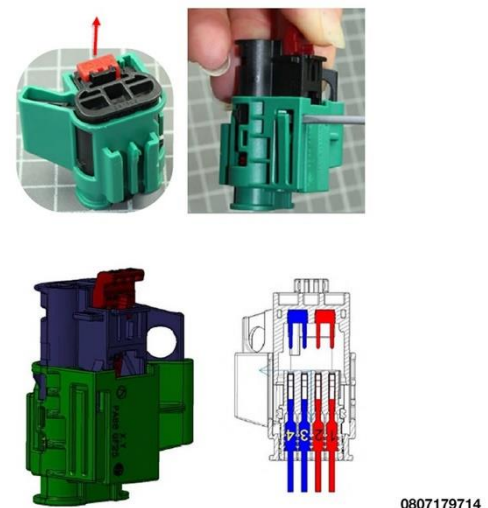

Figure 2 – HVDL Connector
3. Open the High Voltage Disabling and Lockout (HVDL) connector located under the 12-volt battery cover by lifting the red Connector Position Assurance (CPA) lock tab on the black portion of the green HVDL connector. Using a small screwdriver or probe, lift the lock arm as shown and lift the black portion of the device until the padlock hole is completely exposed. When the center safety lockout loop of the connector is raised, a hole for a safety lock is exposed (Figure 2).
52. Open driver door and close the HVDL connector and CPA lock tab (Figure 2).